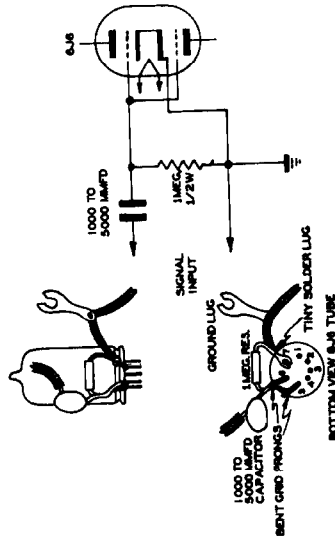

Figure 5 Dummy Converter Tube
- c. Keeping lead lengths as short as possible, follow the diagram in Figure 5 below for wiring details of this modification.